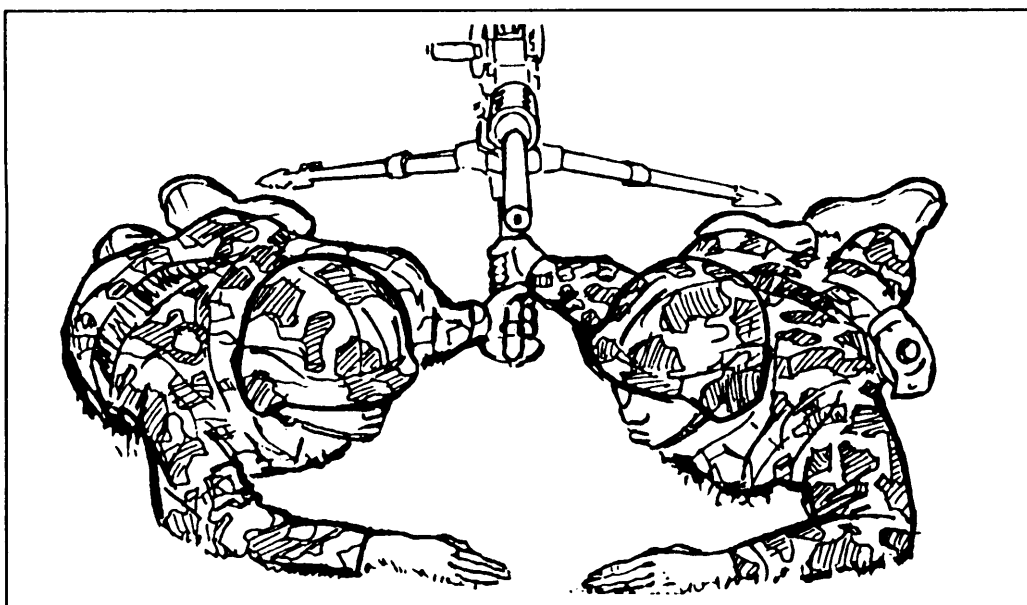

Figure 5-25. Dragging the gun into position.
(1) *Dragging.* The gun is dragged when there is limited cover, or when the situation requires the gun to be moved in this manner. The gunner and assistant gunner drag the mounted gun to the desired position (Figure 5-25).